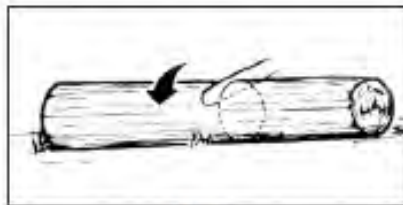

Fig.8
1. Log supported along entire length: cut from bottom(underbuck),being careful to avoid cutting into the ground (Fig.8)